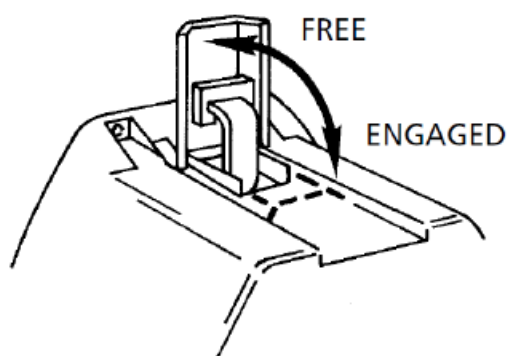

Figure 14
Lift the clutch lever to the "Free" position as shown in Figure 13. If there is a load on the wire rope, the clutch lever may not turn easily. **DO NOT FORCE THE CLUTCH LEVER.** Release tension on the wire rope by jogging out some of the wire rope. Releasing the clutch and pull out the wire rope and secure to anchor or load. Check that there are at least five (5) turns of wire rope left on the drum. Re-engage the drum by returning the clutch lever to the "Engaged" position (see Figure 14).